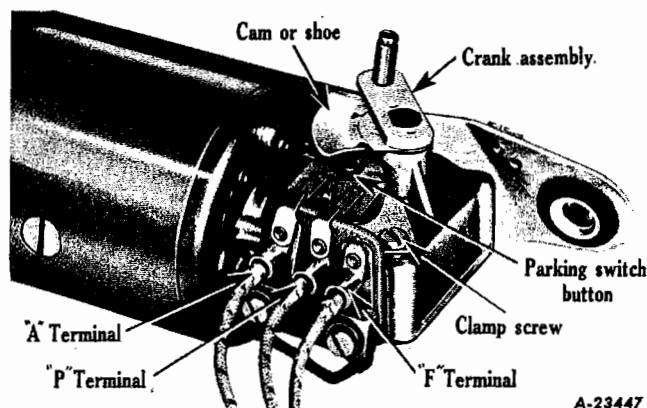

Fig. 86
4. Two-speed control located in manually operated three-position switch (61).
8. Automatic parking switch (47). This switch is connected in parallel with the manual switch when the latter is in the "OFF" position. The wiper motor will continue to operate until the cam located on the gear shaft (16) engages the parking switch button. Also refer to Fig. 86
2. Temporarily connect a "jumper" between the "A" and "F" terminals on the motor terminal plate (See Fig. 86).